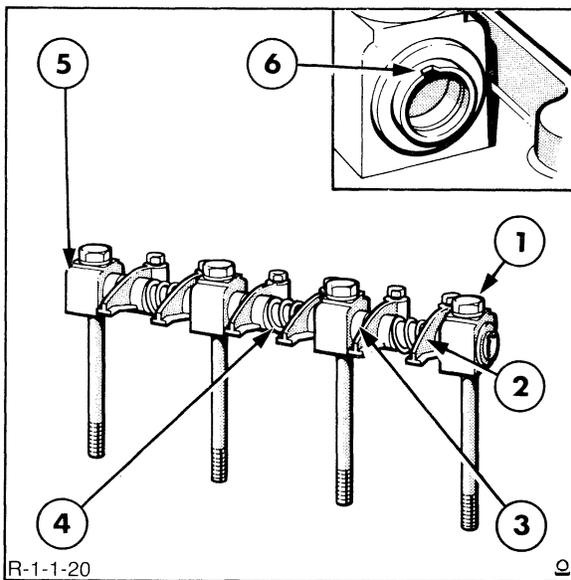

FIGURE 1-19
The rocker shaft has an identification groove at one end of the shaft. Position the mark upwards, Figure 1-19, and use this end as the front of the shaft, thereby ensuring the oil holes and grooves in the shaft face downwards.
4. Be sure that the springs and spacers are in their correct position, as shown in Figure 1-19, then proceed with the assembly. Place a long cylinder head retaining bolt in the last (front) support to keep the complete assembly together.